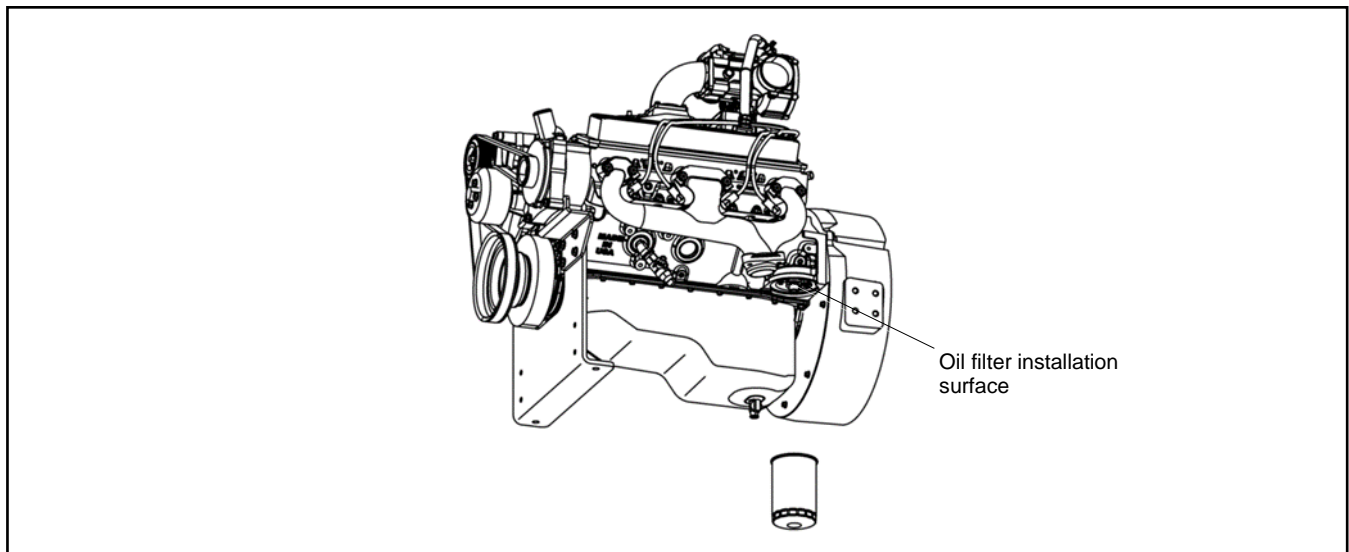

Figure 25 Oil Filter Installation Location
5. Wipe the oil filter installation surface clean with a dry cloth. Inspect the installation surface for damage. See Figure 25.